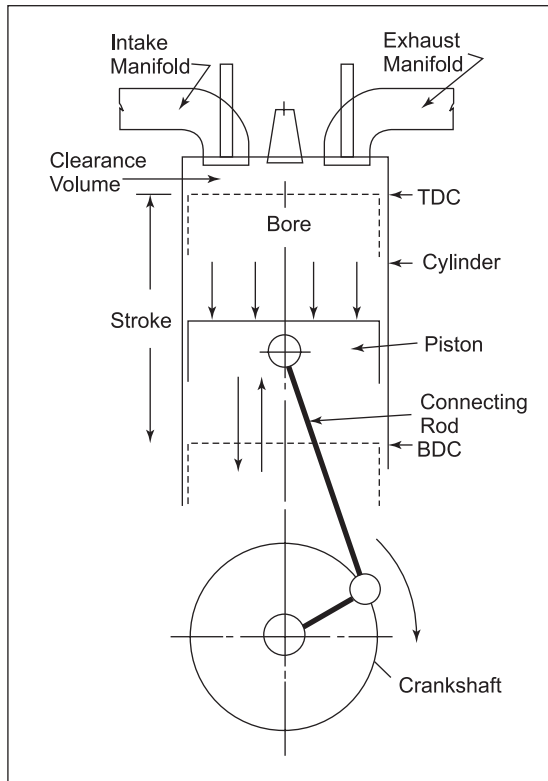

Figure 1.2 *An internal combustion engine*
2. **Internal combustion engines:** Internal combustion engines are heat engines that may be used in vehicles that operate on road, sea or in air/sea. As the name is suggestive, these engines use an internal combustion chamber to burn a fuel or a fuel mixture whose nature could be liquid, solid or gaseous (Figure 1.2). The energy transfer is important as that solely determines the efficiency and work performance of these engines. The design is limited by the laws of thermodynamics. Examples of internal combustion engines are high speed rail, ships and submarines, aircraft and spacecraft.